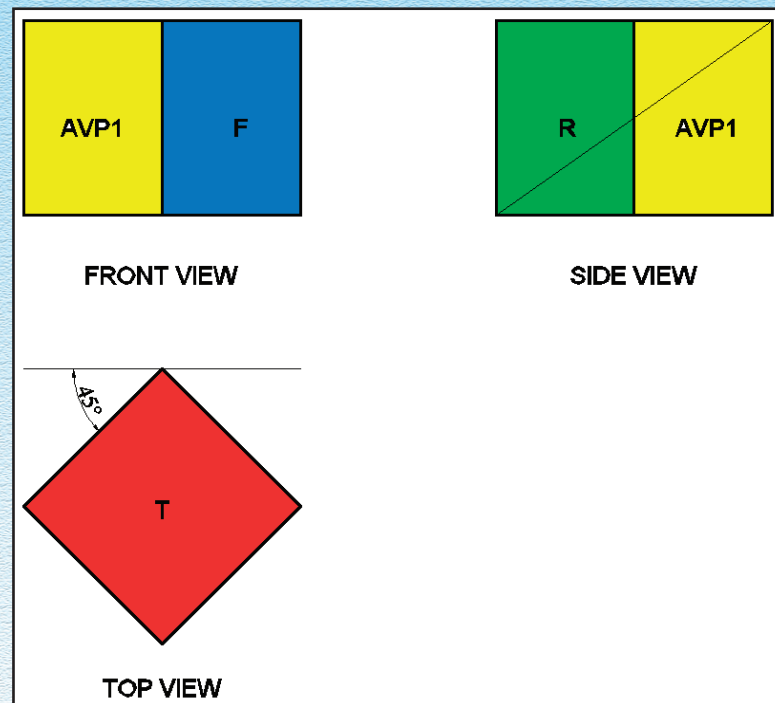
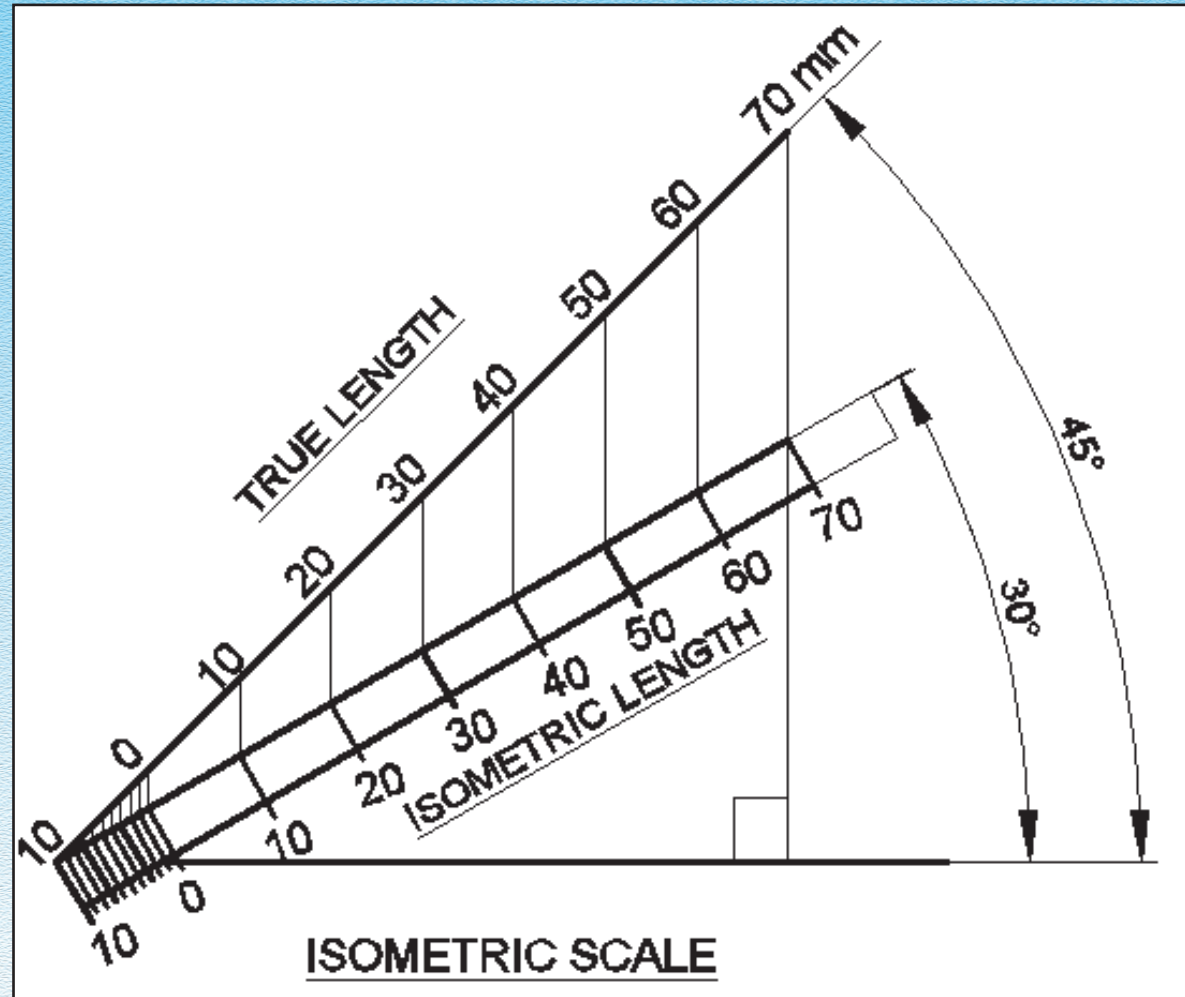

Fig. 7.4
Fig. 7.6(b)
Now turn the cube so that all the faces are equally inclined i.e. 45° to V.P. and draw its views as shown in Fig. 7.4. Here are the Front View and Side View, both show two surfaces of the cube, parallel to the plane of projection. We can see the "Body Diagonal" in its Side View, which is the longest straight line that can be drawn in a cube.
where the top (T) of the cube appears as a rhombus while in Fig. 7.4 the true shape of top (T) is square. These two shapes reveal that all the four edges of the Top (T) are foreshortened in isometric projection. If we draw both the (T) top relatively one with the, other, we can conclude that rhombus edge is the isometric length of the square edge as shown in Fig. 7.6(a).